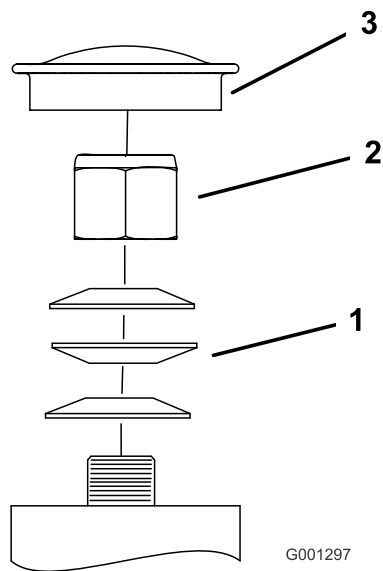

Figure 60
3. Remove the dust cap from the caster and tighten the lock nut (Figure 60).
4. Tighten the locknut until the spring washers are flat, and then back off a 1/4 turn to properly set the preload on the bearings (Figure 60).
5. Install the dust cap (Figure 60).
Important: Make sure that the spring washers are installed correctly as shown in Figure 60.